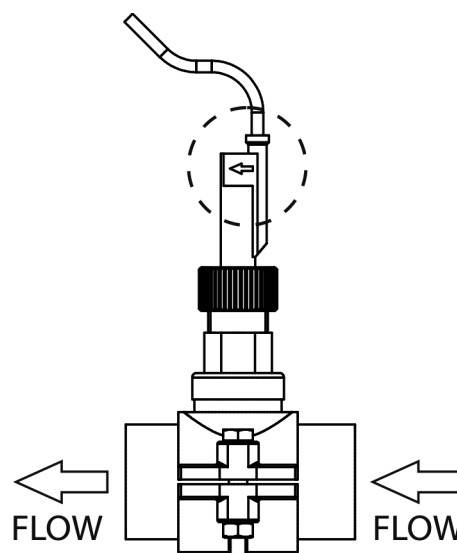

Fig. 11a
3. There is an arrow on the head of the flow detector. Make sure that this arrow is parallel to the pipe shaft and pointing in the direction that the water flows (Fig. 11a).